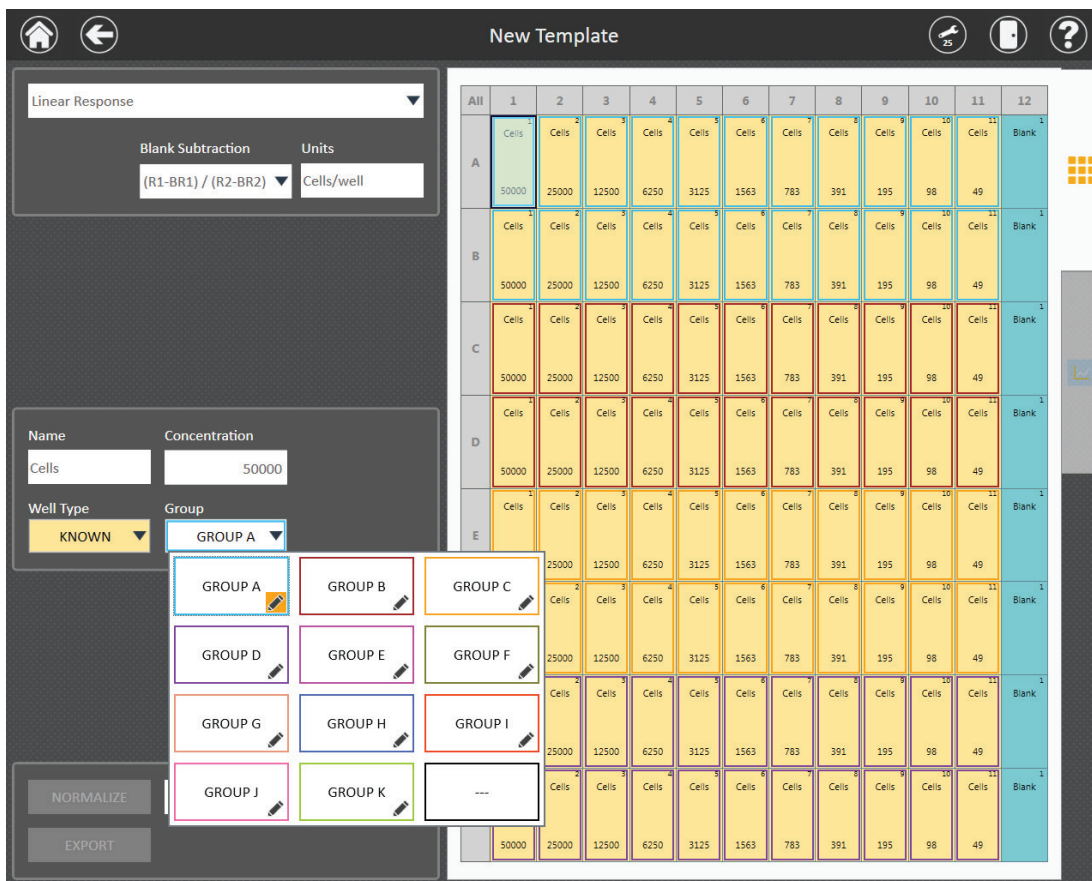

Figure 62. Select the icon in the lower right corner of each Group label to edit the group label.
- c. If desired, open a keyboard to edit the group name text by selecting the icon in the lower right corner of each Group letter in the Group drop-down menu (Figure 62). Edited Group name will be shown in the graph legend for the respective curve (Figure 63).